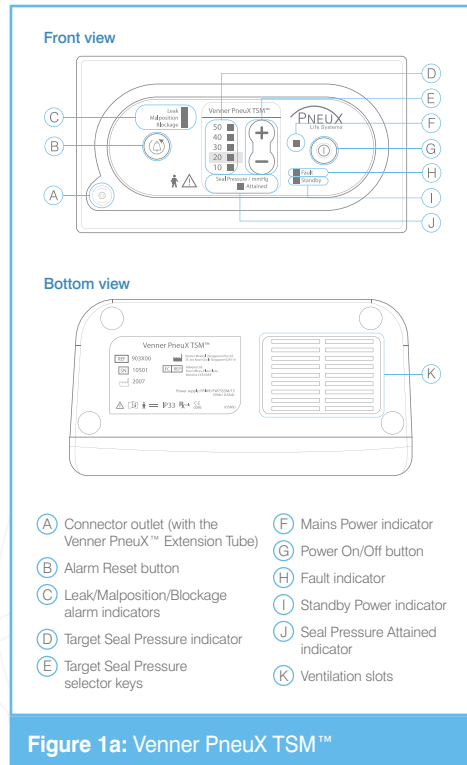
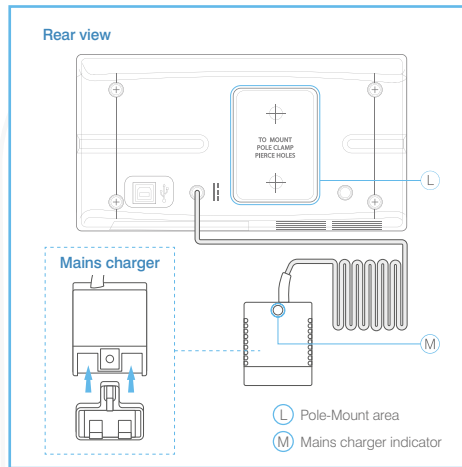
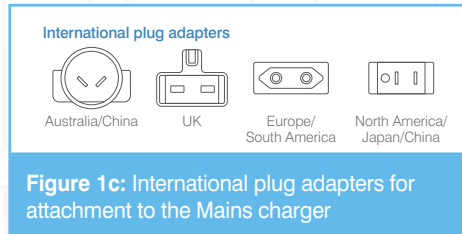
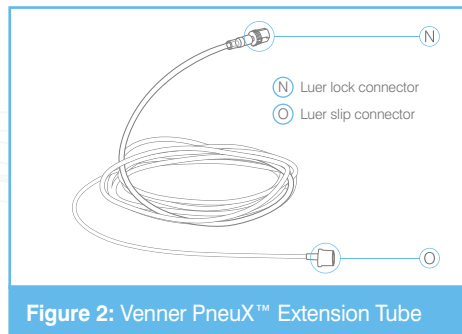

Figure 1a: Venner PneuX TSM™
Figure 1b: Venner PneuX TSM™
Figure 1c: International plug adapters for attachment to the Mains charger
Figure 2: Venner PneuX™ Extension Tube
The Venner PneuX TSM™ (Figures 1a and 1b) is an automated cuff pressure controller designed to be used with the Venner PneuX™ Endotracheal Tube (ETT) and Tracheostomy Tube (TT) as a complete system.
The Venner PneuX TSM™ Cuff Pressure Controller has an attached Mains charger, audible alarms, LED light indicators and function buttons (refer to Section 3: Alarms, Buttons and Indicators). It is supplied with four international plug adapters (Figure 1c), a pole clamp and two long screws (5 mm x 14 mm) for mounting purposes if required.
The 2-metre single use Venner PneuX™ Extension Tube (Figure 2) connects the Venner PneuX TSM™ with the Venner PneuX™ ETT/TT. One end of the tube is a uniquely designed Luer lock connector for attachment to the Connector outlet on the Venner PneuX TSM™ and the other end is a Luer slip connector which has a protective sleeve impeding connection to Luer lock devices for attachment to the pilot valve of the Venner PneuX™ ETT/TT.
Position Venner PneuX TSM™ on a suitable flat surface or on a drip pole. For attachment to a drip pole pierce through the two target points on the Pole-Mount area (Figure 1b:L) of the device. Attach the clamp to the device using the long screws provided and thereafter, secure tightly to the drip pole.
Attach the appropriate international plug adapter (Figure 1c) to the Mains charger by sliding its vertical slots through the bottom of the Mains charger (Figure 1b). Begin operating the Venner PneuX TSM™ by connecting the Mains charger to a power outlet and observe a GREEN light appearing on the Mains charger indicator (Figure 1b:M) to confirm there is power supply. A RED light from the Standby Power indicator (Figure 1a:I) should also illuminate. If no light appears on either indicators, check the connection.
Proceed to attach the Luer lock connector (Figure 2:N) of the Venner PneuX™ Extension Tube to the Connector outlet (Figure 1a:A) on the Venner PneuX TSM™, and the Luer slip connector (Figure 2:O) to the pilot valve of the ETT/TT. Ensure that there is no accidental pulling or tugging of the Extension Tube.
Switch on the Venner PneuX TSM™ by pressing the Power On/Off button (Figure 1a:G). All LED indicator lights will flash rapidly five times before adjusting to the default seal pressure illuminated by the Target Seal Pressure indicator (Figure 1a:D). The default seal pressure setting is 20 mmHg (approx. 30 cmH₂O) unless a user change this using the Target Seal Pressure Selector Keys (Figure 1a:E). During normal operation, all 3 lights (Mains Power indicator (Figure 1a:F), Target Seal Pressure indicator and Seal Pressure Attained indicator (Figure 1a:J)) will illuminate at all times.
CAUTION: Should any of the three lights not illuminate, press the Alarm Reset button (Figure 1a:B) to reset Venner PneuX TSM™. If this does not work, do not use the Venner PneuX TSM™ and disconnect the Extension Tube (refer to Section 2.4: Disconnection). Contact the local distributor for technical support.
Alarm Reset button (Figure 1a:B)
Leak, Malposition and Blockage alarm indicators (Figure 1a:C)
Target Seal Pressure indicator (Figure 1a:D)
Target Seal Pressure Selector Keys (Figure 1a:E)
Mains Power indicator (Figure 1a:F)
Power On/Off button (Figure 1a:G)
Fault indicator (Figure 1a:H)
Standby Power indicator (Figure 1a:I)
Seal Pressure Attained indicator (Figure 1a:J)
Mains charger indicator (Figure 1b:M)